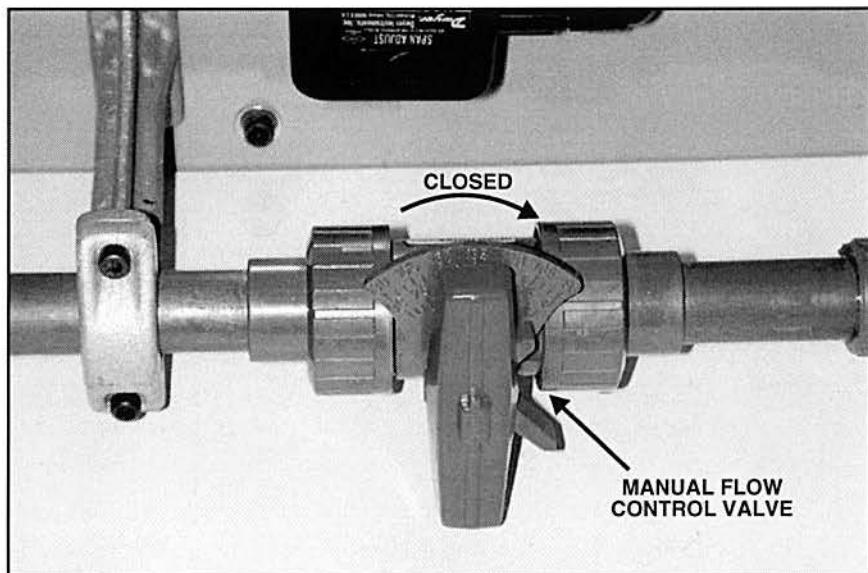

Figure 53. Manual Flow Control Valve Closed
- G. Make sure the manual flow control valve is completely closed (fully clockwise), as figure 53 shows.